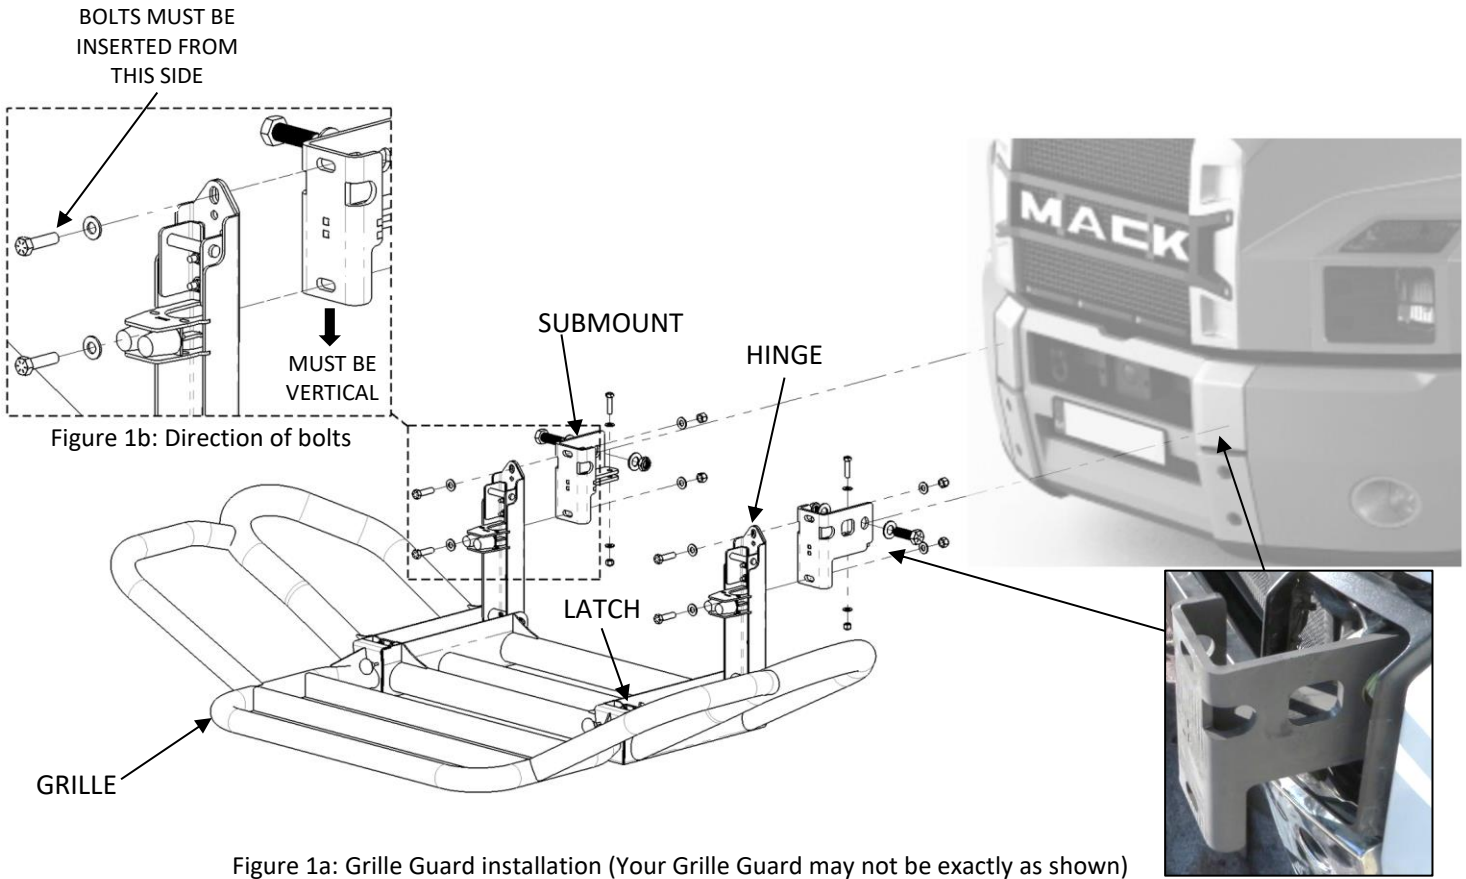

Figure 2a: Remove two front nuts
- Remove nuts as indicated in Figure 2a above.